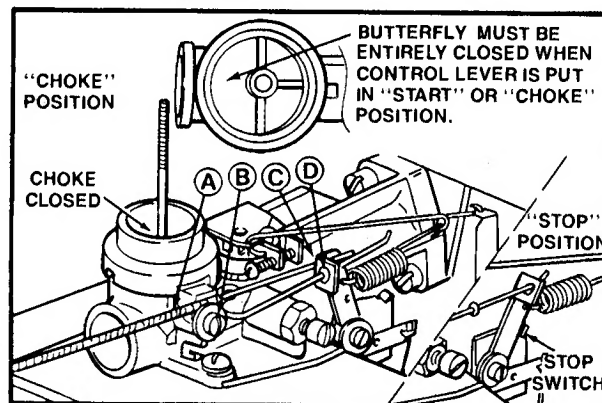

FIG. 3
4. TO ADJUST (Fig. 3). Place throttle/choke control lever on handle in "fast" position. Loosen control casing clamp screw (B) on carburetor. Move control casing (A) and wire forward or backward until speed lever (C) just touches the choke operating link at (D). Tighten casing clamp screw (B) on carburetor. Recheck operation of controls after adjustment (Fig. 3).